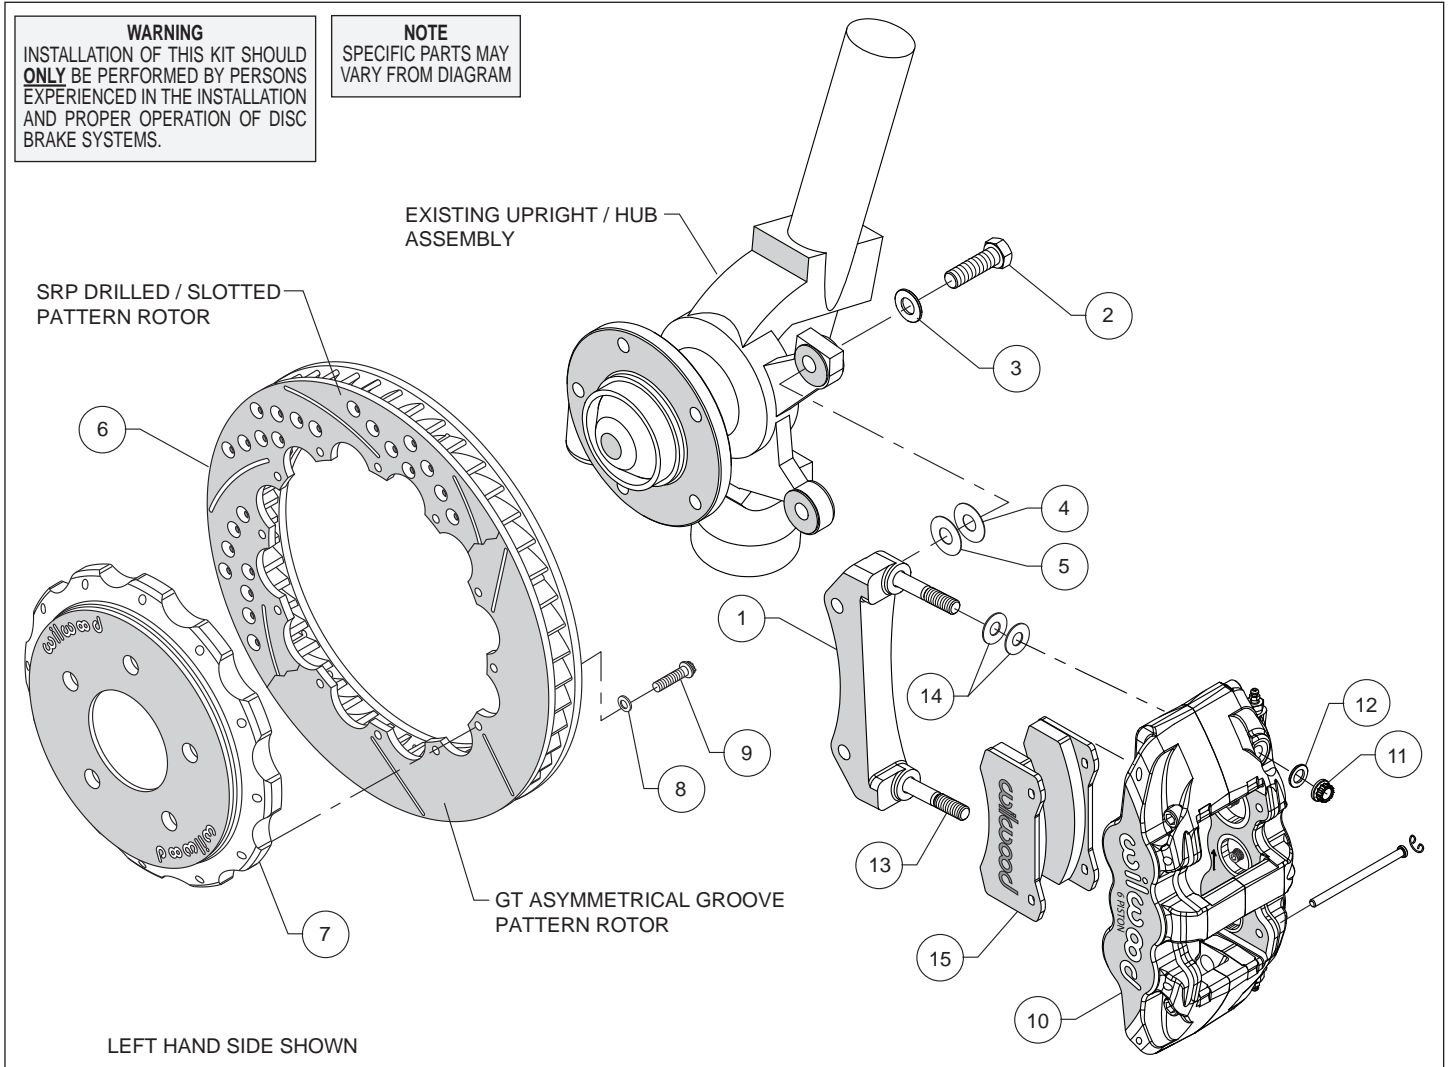
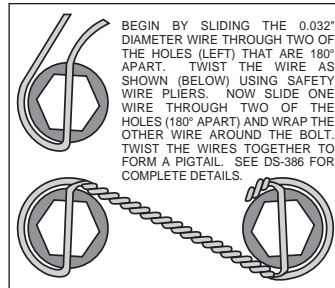

Figure 1. Typical Installation Configuration
Figure 3. Safety Wire Diagram
Assembly Instructions (numbers in parenthesis refer to the parts list and Figure 1 on the preceding pages):
- The caliper mount bracket (1) should initially be installed with clean, dry threads on the mounting bolts. Orient the bracket as shown in Figure 1 and Photo 1 and install using mount bolts (2) and washers (3). Initially place one each .033" thick shim (4), and .015" thick shim (5) on each bolt between the bracket and upright, Figure 1. Temporarily tighten the mounting bolts. **NOTE:** The bracket must fit squarely against the mount bosses on the upright. Inspect for interference from casting irregularities, machining ridges, burrs, etc. Later, after the caliper alignment has been checked, the mount bolts will be secured using red *Loctite*® 271.
- Orient the rotor (6) and the hat (7) as shown in Figure 1 and Photo 2. Attach rotor to hat using bolts (9) and washers (8). Using an alternating sequence, apply red *Loctite*® 271 to the threads and torque bolts to 155 in-lb. For an added measure of security, the bolts may be safety wired using standard 0.032 inch diameter stainless steel safety wire as shown in Figure 3.
- NOTE:** This kit contains distinct right and left hand calipers that must be mounted in a specific direction, as described below. Lubricate the caliper mounting studs (13) with lightweight oil. Initially place two .030" thick shims (14) on each stud as shown in Figure 1 and Photo 4. Mount the caliper (10) onto the bracket (1) using lock nuts (11) and washers (12), Figure 1. Ensure that the caliper is mounted so that the largest pistons are at the rotor exit end of the caliper, in relation to the direction of rotor rotation. Temporarily tighten the lock nuts and view the rotor through the top opening of the caliper. The rotor should be centered in the caliper, Photo 5. If not, adjust by adding or subtracting shims (4 and/or 5) between the bracket and the upright. Always use the same amount of shims on each of the two mounting bolts. Once the caliper alignment is correct, remove the bracket mounting bolts one at a time, apply red *Loctite*® 271 to the threads, and torque to 60 ft-lb.
- Remove the two pad retaining pins from the caliper (10) by carefully popping out the pin retaining clips and sliding out the pins. Insert the brake pads (15) into the caliper from the bottom, Figure 1 and Photo 6. With the friction material facing the rotor, secure the brake pads in place with the pad retaining pins and clips, Photo 7. Reinstall the caliper onto the caliper mounting bracket and temporarily tighten the lock nuts. Check that the top of the brake pad is flush with the outside diameter of the rotor, Photo 8. If not, adjust by adding or subtracting shims (14) between the caliper and the bracket. After the caliper pad height is set, torque the caliper lock nuts (11) to 47 ft-lb.